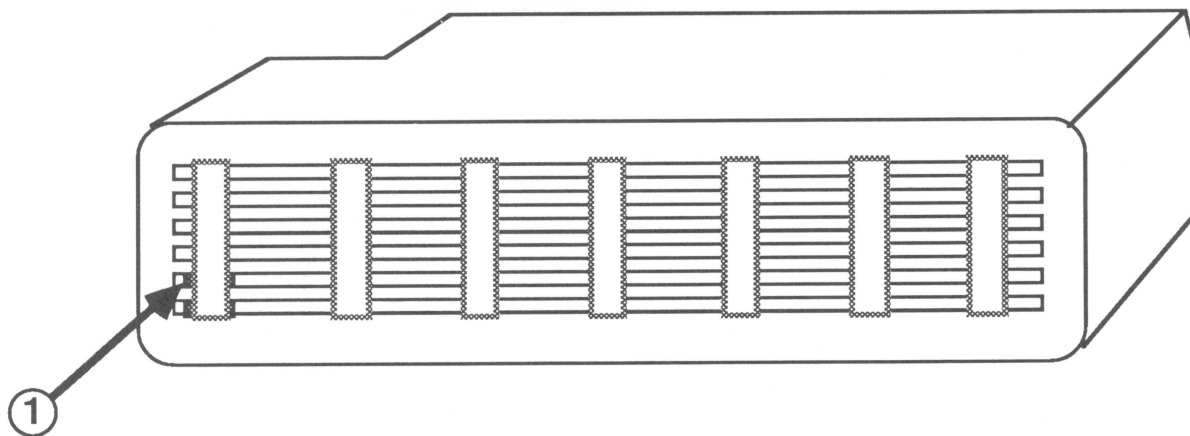

FIGURE 2
3. Locate the two tabs, one on each side of the hard disk (see Figure 2, #1).